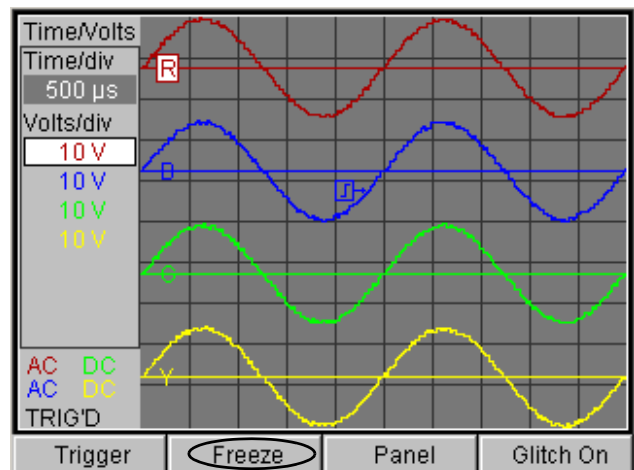

Figure 7.33: Lab Scope Screen, DMM Off - Freeze Function Key
- If DMM is off, the screen looks similar to Figure 7.33.